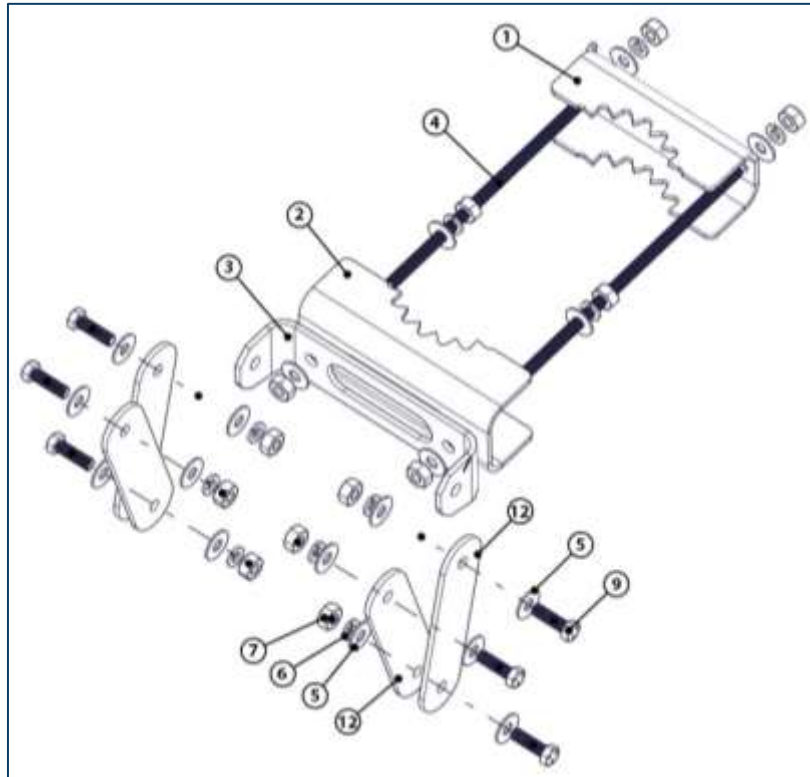

Figure 3: Center mount (8- and 9-foot antennas)
NOTE: These item numbers refer to Figure 3 on page 6.
5. Install center mount pieces—back grip bracket 1, anti-rotation bracket 2, and center link bracket 12—onto antenna as shown in *Figure 3* using threaded rods 4 and the following 3/8" hardware: 5, 6, 7, and 9. Leave all fasteners associated with tilt and pole loose enough to allow free rotation of the parts. Make sure the threaded rods do not extend past the nut closest to the antenna.